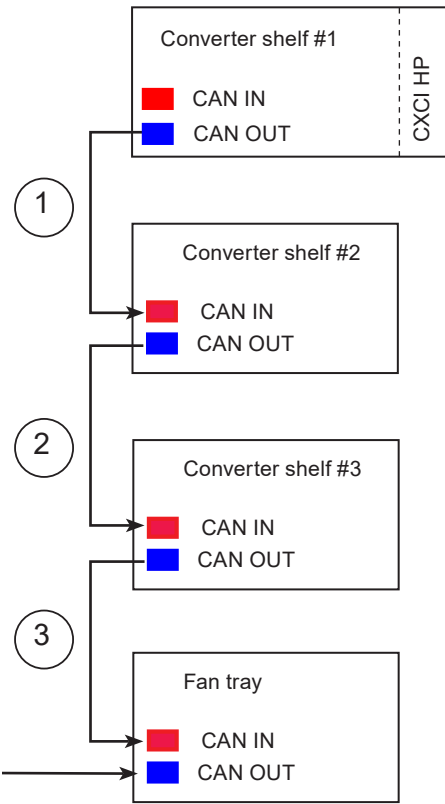

Figure 22 — CAN Bus Cabling
1. Connect the daisy-chained CAN bus cable from the top shelf to the last shelf or fan tray. Figure 22 shows the wiring for three shelves and a fan tray.